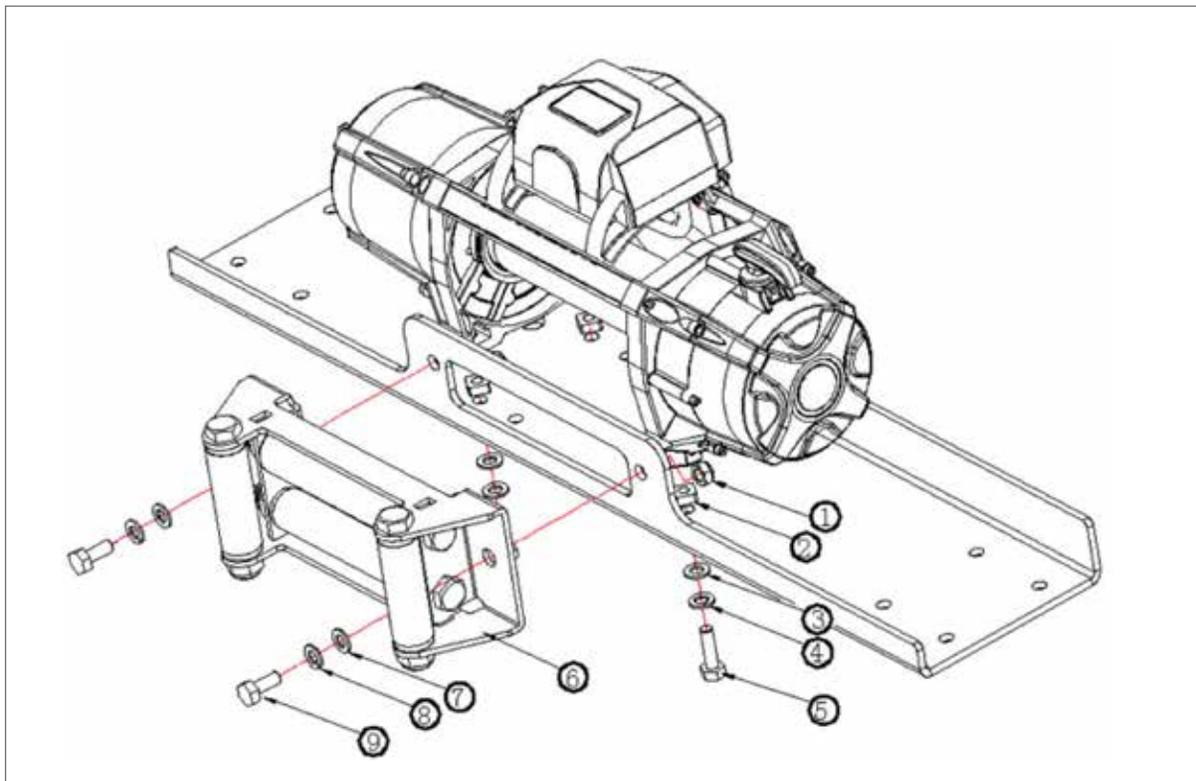

Fig. 3
4.2 MOUNTING WINCH (refer to Fig. 3).